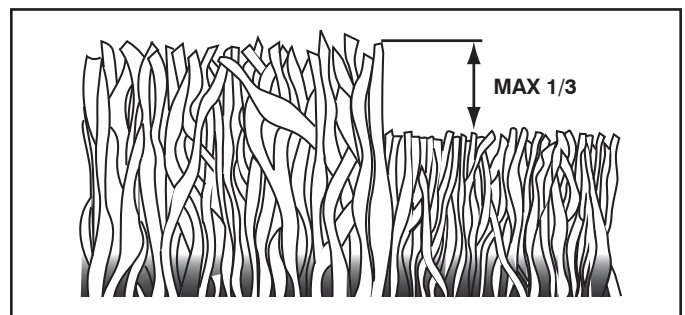

FIG. 16
- For best results, adjust the lawn mower cutting height so that the lawn mower cuts off only the top one-third of the grass blades (See Fig. 16). If the lawn is overgrown it will be necessary to raise the height of cut to reduce pushing effort and to keep from overloading the engine and leaving clumps of mulched grass. For extremely heavy mulching, reduce your width of cut by overlapping previously cut path and mow slowly.